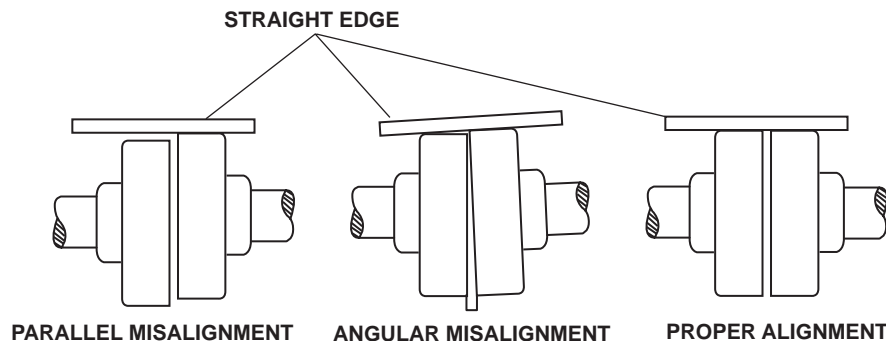

Figure 2. Coupling Alignment
1. Check the parallel and angular alignment using a straight edge held against the edges of the coupling halves at any four places 90° apart around the coupling. The straight edge should be parallel to the pump and the electric motor halves at all times. Refer to figure 2.